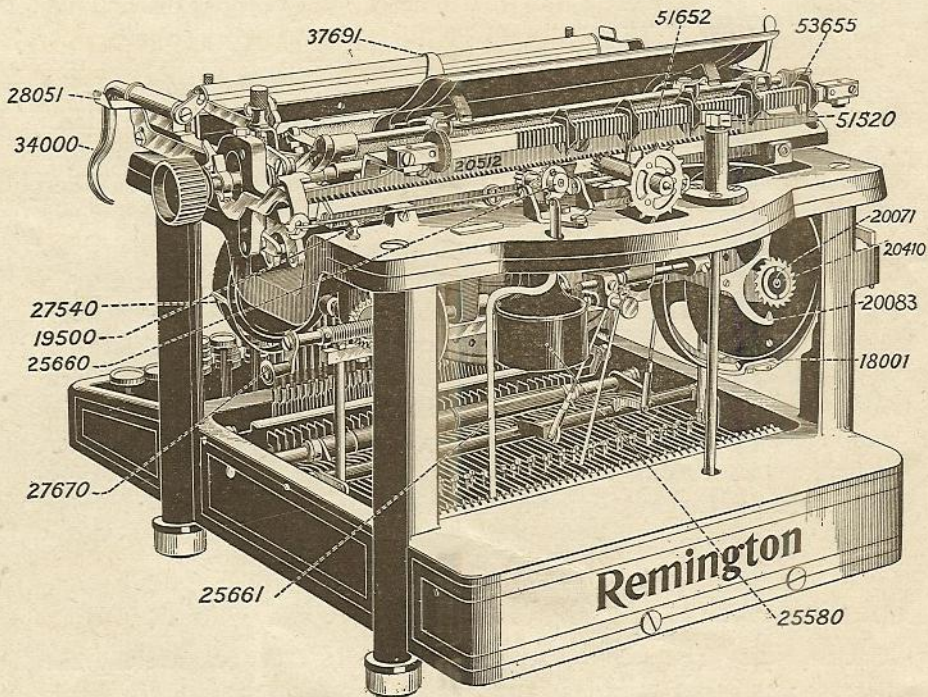
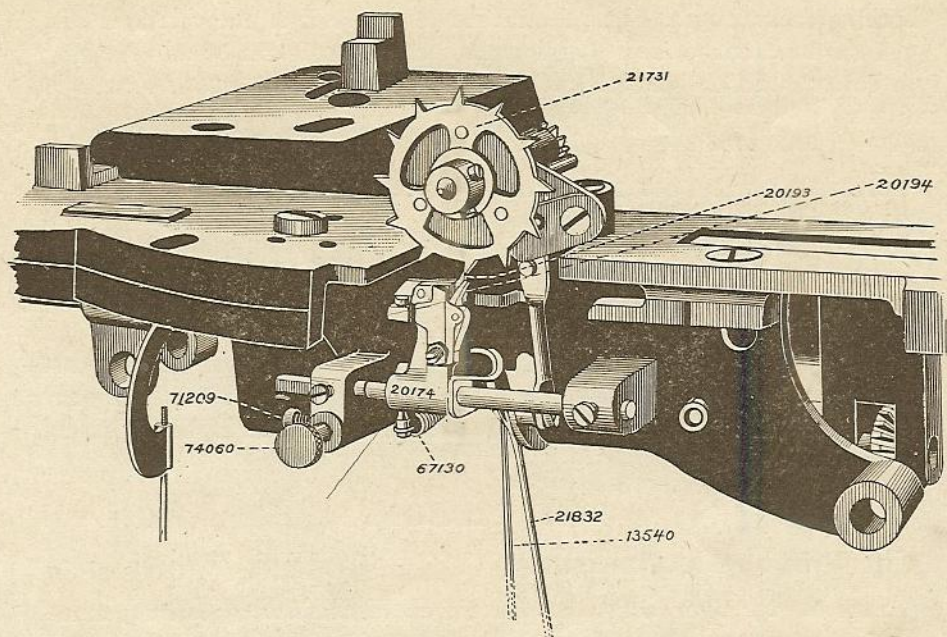

FIGURE 3
FIGURE 4
SECTION 19. The carriage moves to the left by the force of a coiled spring contained in the mainspring wheel (18000, Fig. 3). A flexible metal strap (19500, Fig. 3) connects this spring with the carriage. It is desirable that the carriage move promptly, but it is also important that the tension should not be too strong, or it will cause unnecessary wear upon the escapement wheel (21731, Fig. 4) and the dogs (20193 and 20194, Fig. 4). The carriage tension may be increased by turning the tension ratchet wheel (20410, Fig. 3), toward the right and diminished by moving up and down the lever (20083, Fig. 3). It is seldom necessary to change this tension.
SECTION 21. The step-by-step motion of the carriage, whereby the letter spacing is performed, is accomplished by the action of the letter spacing dogs (20193 and 20194, Fig. 4) upon the escapement wheel
(21731, Fig. 4). The dogs, mounted upon the upright arm of the rocker (20174, Fig. 4) at the back of the machine engage slightly the teeth of the escapement wheel just above, and prevent them from revolving, save as motion is communicated to them by the operation of the machine.
The dogs are so adjusted that when a key is struck, they are released from a tooth in the escapement wheel (21731, Fig. 4), and are brought into contact with the next tooth in the escapement wheel. As soon as the key is released, the rocker goes back to its first position. With this style of escapement, the carriage moves with the downward stroke of the keys. The key should be struck with a light, staccato stroke, and the fingers not allowed to dwell on the keys when the type is printing.
spacing rack (20512, Fig. 3) attached to the rear of the carriage. To release the carriage from the pinion wheel so that it can be moved along in either direction, depress either carriage release key (28051 or 28052, Fig. 1).
SECTION 23. The amount of tension on the letter spacing rocker (20174, Fig. 4) is regulated by the coiled spring (67130, Fig. 4), which is secured to the letter spacing rocker and the spring adjusting bridge. To increase the tension, loosen the set screw (71209, Fig. 4), which holds the adjusting screw for dog tension spring (74060, Fig. 4), and turn the adjusting screw to the right until the desired tension is secured; then tighten the set screw again. To diminish the tension, turn the adjusting screw to the left.
The column selector is operated by means of five keys (53520, Fig. 1), the depression of any one of which operates the star wheel (51520, Fig. 3), which in turn engages the stops (53655, Fig. 3) on the rack (51652, Fig. 3). It is the setting of the stops on this rack in connection with the operation of the keys, which determines where each line of writing shall begin.
To set up the machine for doing this work, simply set the five stops (53655, Fig. 3) on the rack (51652, Fig. 3) at the points "10," "20," "30," "35" and "45," as shown by the rack scale.
NOTE.—When a column selector key is locked on any one of the stops (53655, Fig. 3), as, for example, when no writing has been done at the column in question, the pressure of the key of next higher denomination is necessary to advance the carriage to the next stop, etc.
SECTION 28. The Reversible Rack (51652, Fig. 3) is designed for use in connection with the column selector of the Model 10 Remington. It has four sides and may be turned at will by simply revolving the rack on its axis. The reversible rack is a very useful feature where a number of forms of different character are used alternately on the same machine, since it relieves the operator of any necessity for resetting the stops when changing from one form to another. With this device, the stops (53655, Fig. 3) for two, three or four different forms can be kept permanently in place, and the change from any one to any of the others can be made instantly by simply turning the rack.